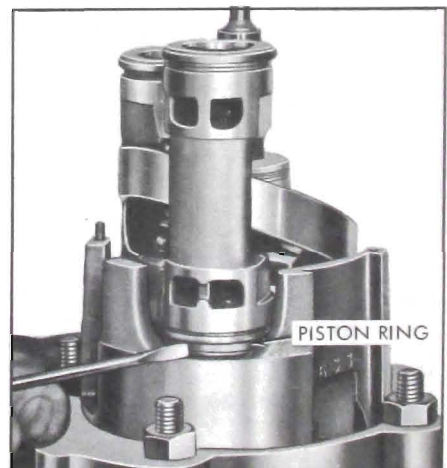

Figure 11-93—Compressing Front Piston Rings
**NOTE:** In order to fit the piston onto the swash plate and into the cylinder bore, the swash plate must be raised approximately 1/2 inch, the front needle thrust bearing and races must be held up against the hub of the swash plate, and the piston rings must be squeezed together (see Figure 11-93). Lubricate cylinder bore, piston assembly and swash plate